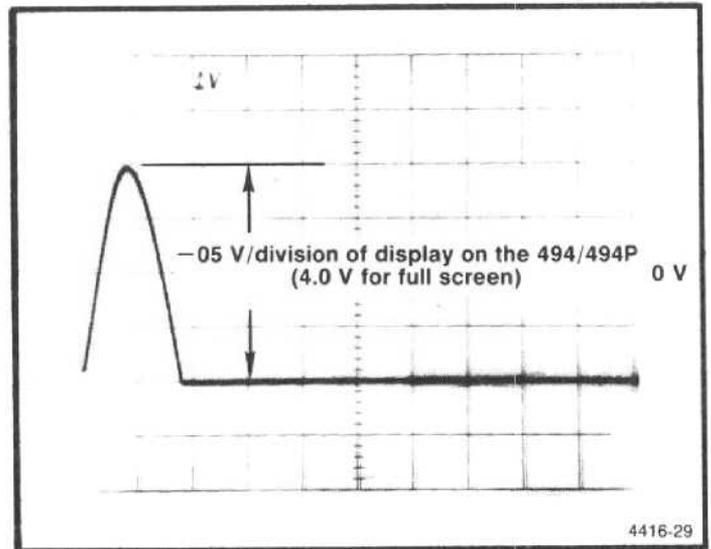

Figure 4-24. Test oscilloscope display of VERTICAL output with a full screen display on the 494.
d. Check — the amplitude of the output vertical signal on the test Oscilloscope. Output level should equal, plus and minus 2 V for a total of 4 V \pm 0.2 V (see Figure 4-24).